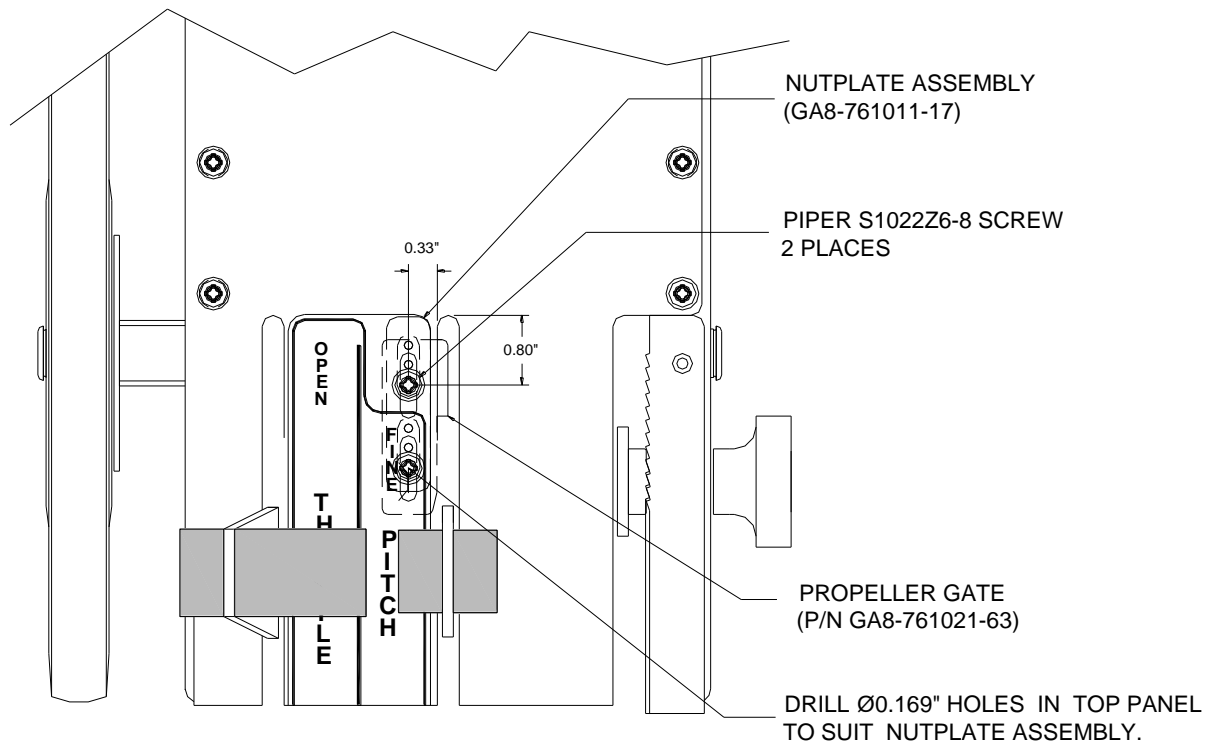

Figure 1 – Gate installation
3. Install propeller gate (P/N GA8-761021-63) and nutplate assembly (P/N GA8-761011-17). Refer to Figure 1.